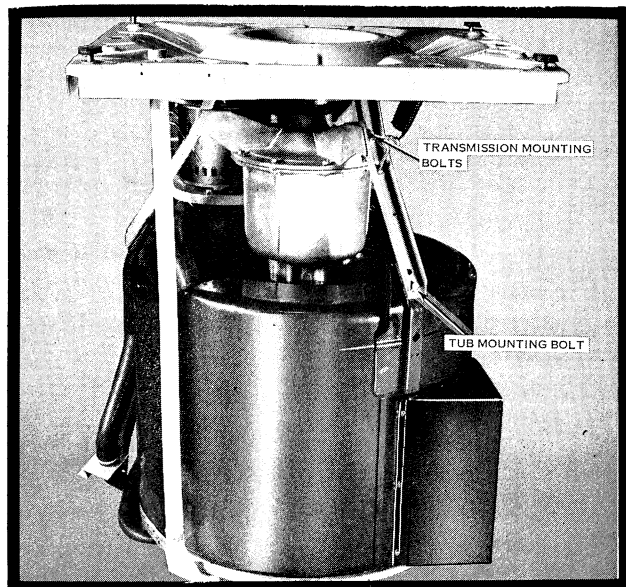

Figure 62
- a. Remove four tub mounting bolts, *Figure 62*.
- b. Remove the three transmission mounting bolts, one from each brace, *Figure 62*.